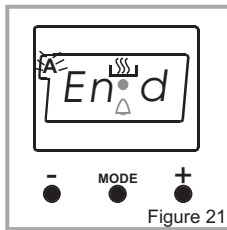

Figure 21
Second; keep pressing on the MODE button until you see "end" on the timer screen. When you see "end" on the timer screen, the symbol (A) and the day's time will begin to flash, with the addition of the cooking period. Adjust the finishing time for the food by using the (+) and (-) keys while the timer is in this position. Some time after the adjustment operation is completed, the day's time will appear on the screen and the symbol (A) will begin to continuously light on the screen (Figure 21).